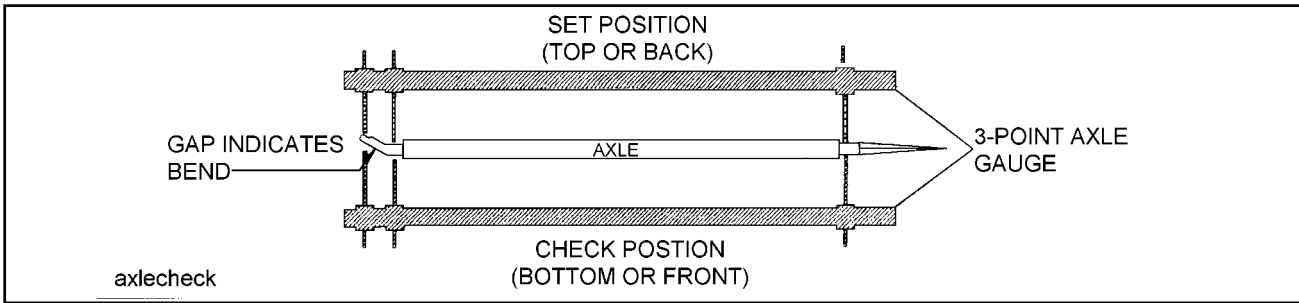

Figure 4-6 Checking Axle for Bend
- b. Place a 3-point axle gauge against the front side of the axle, and adjust each axle gauge point to the axle. (Double point end against the inner and outer wheel bearing surfaces of the spindle being checked and the other point on the inner bearing surface on the other spindle)(See Figure 4-6).
- c. Move the axle gauge and place against the back side of the axle. If either of the points of double point end fails to touch the axle surface, a bent spindle is evident. A point gap of .015" or more is considered excessive tire "toe" and the axle must be replaced (See Figure 4-6).